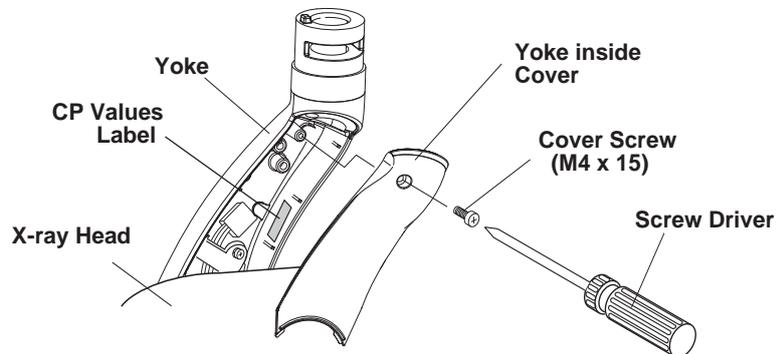

Fig.3-16 Removing Yoke Inside Cover
2. Open the yoke inside cover of x-ray head by removing (M4 x15mm) cover screw. (Fig.3-16)
7. Reattach the yoke inside cover with the screw (M4 x 15mm). Before closing the cover, note the CP values on the CP values label inside of the yoke. (Fig.3-16)